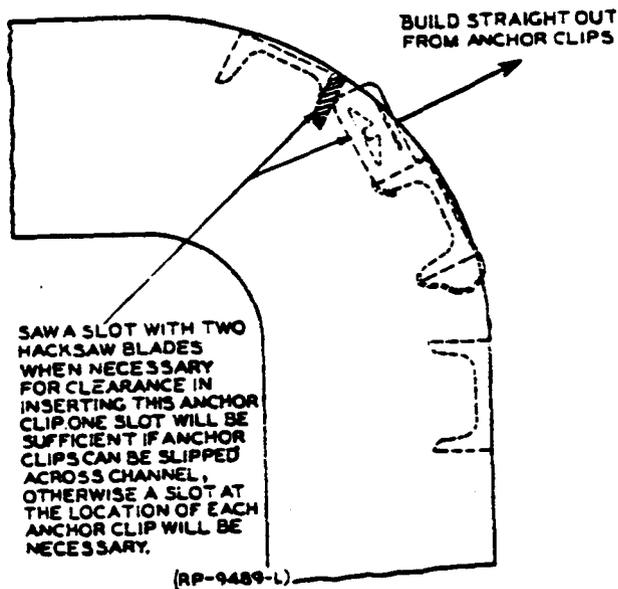

FIG. 2 PLACING ANCHOR CLIPS ON CROSS STRAPS IN CABLE TURNING SECTIONS (PAR. 3.131)
3.131 In cable turning section using the welded multiple cable supports shown in Figure 2, place anchor clips with the tooth portion on either side of the cross-straps as necessary to obtain uniform spacing of clips or as may be required by spacing of channels.